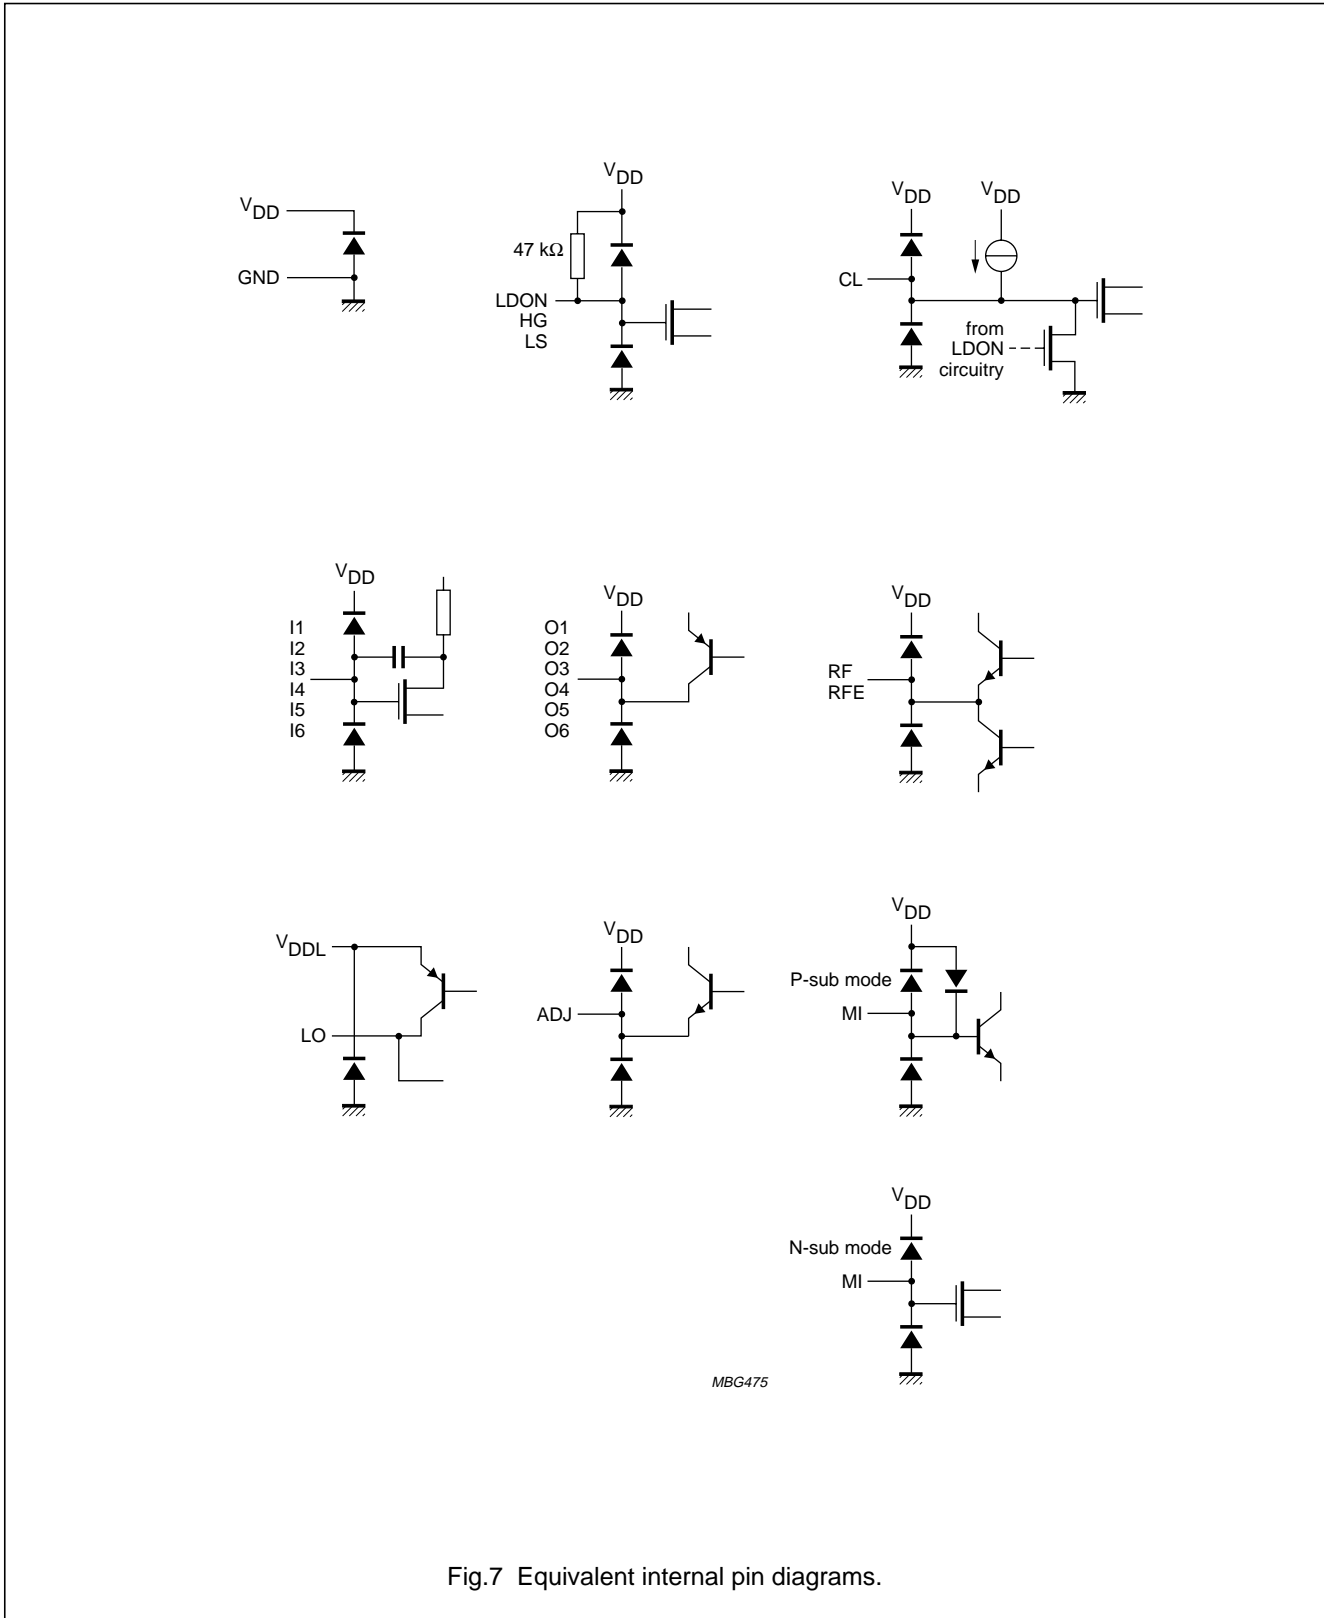

Fig.7 Equivalent internal pin diagrams.
6. For single speed the data amplifier gain ratio is defined as gain difference between 1 MHz and 100 kHz , while the flatness delay is defined up to 1 MHz (see Fig.7). For double speed the data amplifier gain ratio is defined as gain difference between 2 MHz and 200 kHz , while the flatness delay is defined up to 2 MHz .